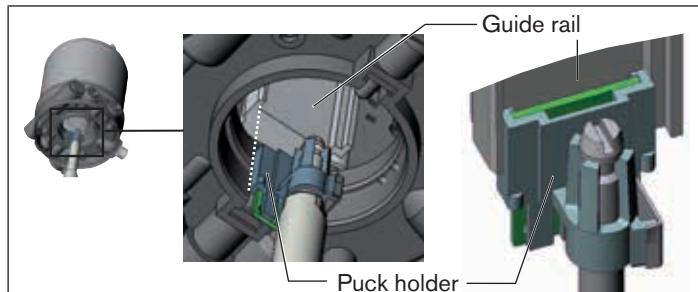

Fig. 5: Aligning the puck holder
→ Control function A pressurize the pilot air port 1 (see "Fig. 5" with compressed air (5 bar): valve opens.
2. the supports of the control unit can be inserted into the pilot air ports of the actuator (see "Fig. 5").